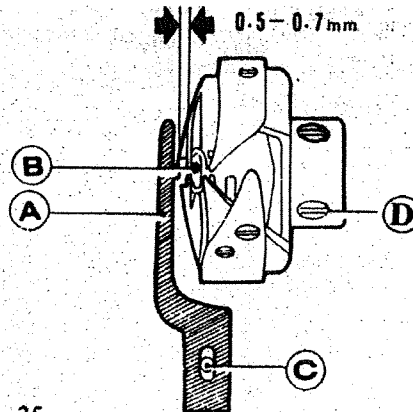

Fig. 35
3) Removing and installing the rotating hook (Fig. 35)